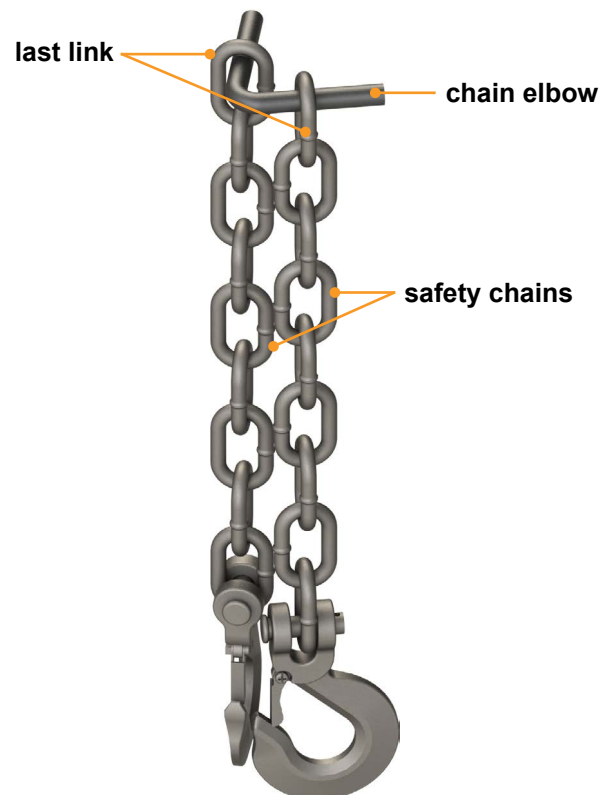

Fig.3
4. Feed the last link of each of the new safety chains onto the new chain elbow (Fig.3)